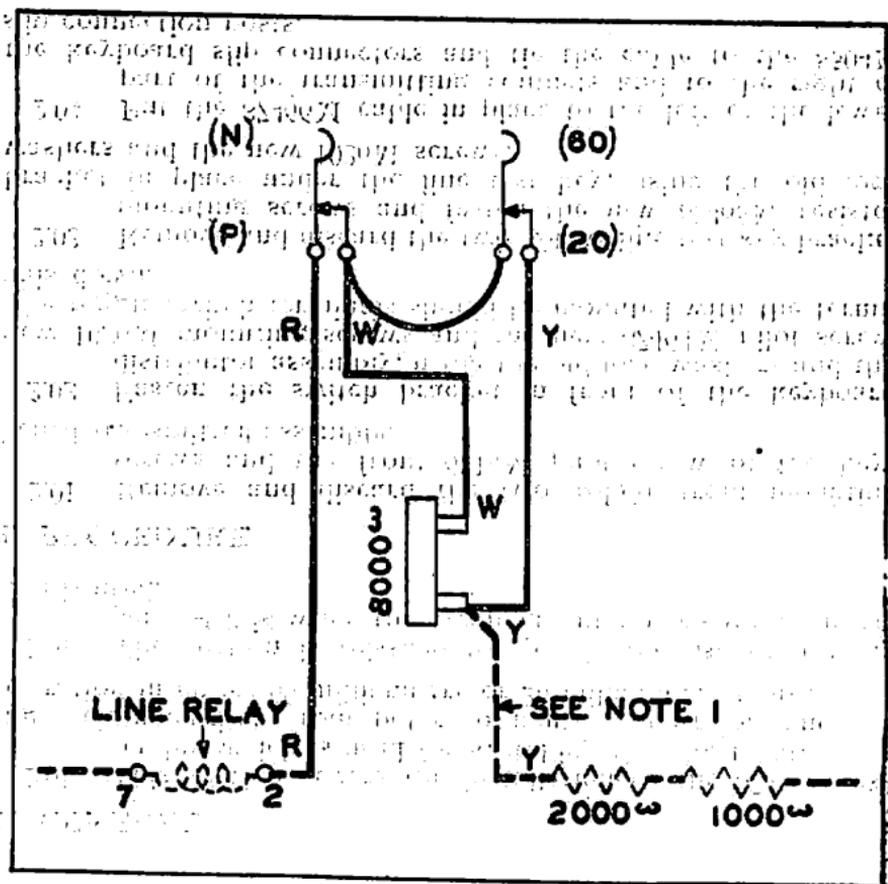

Fig. 1
2.05 Make wiring connections as shown on Fig. 1.
- 2.07 When only the 60-20 milliamperere switching arrangement is required use the wiring of Fig. 1 and add a short on the terminals of the polar-neutral switch.